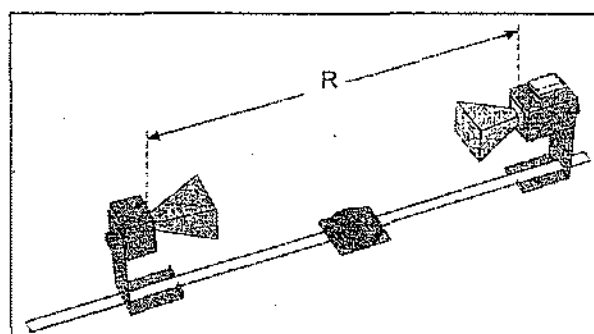
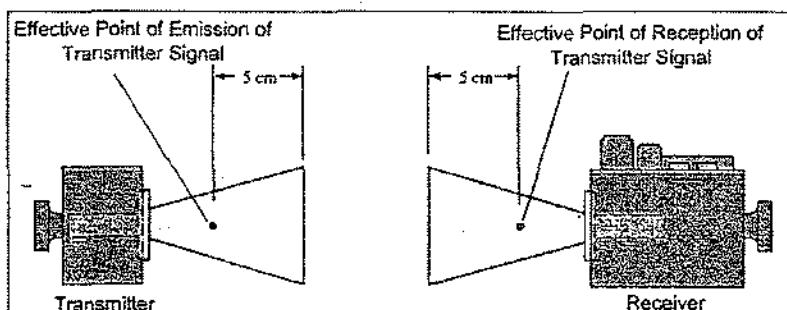

Figure 1.1 Equipment Setup
Figure 1.2 Equipment Setup
- ① Arrange the Transmitter and Receiver on the Goniometer as shown in Figure 1.1 with the Transmitter attached to the fixed arm. Be sure to adjust both Transmitter and Receiver to the same polarity—the horns should have the same orientation, as shown.
- ② Plug in the Transmitter and turn the INTENSITY selection switch on the Receiver from OFF to 10X. (The LEDs should light up on both units.)
- ③ Adjust the Transmitter and Receiver so the distance between the source diode in the Transmitter and the detector diode in the Receiver (the distance labeled R in Figure 1.1) is 40 cm (see Figure 1.2 for location of points of transmission and reception). The diodes are at the locations marked "T" and "R" on the bases. Adjust the INTENSITY and VARIABLE SENSITIVITY dials on the Receiver so that the meter reads 1.0 (full scale).